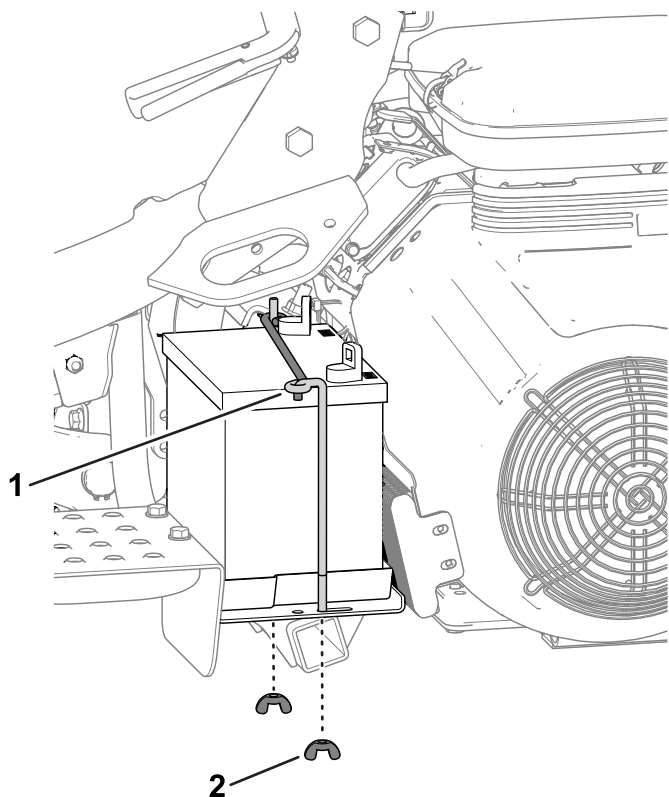

Figure 42
2. Remove the wing nuts and rods that secure the battery to the platform (Figure 42) and lift out the battery.
5. Place the battery on the battery tray and secure it with the previously removed rods and fasteners (Figure 42).